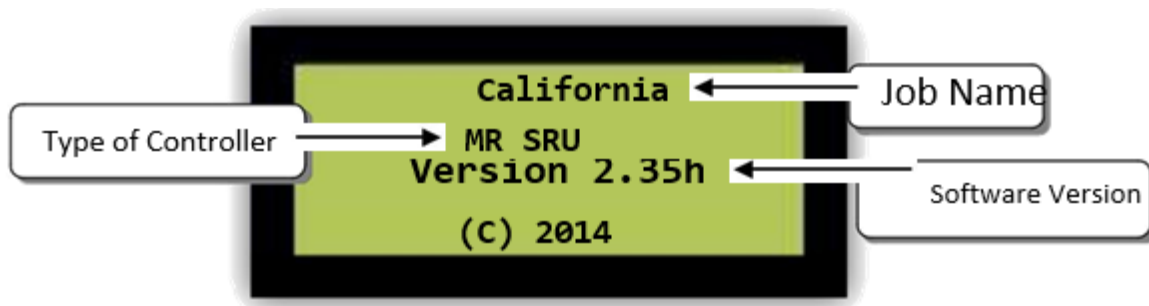

Figure 22: Successful Program
- a. If all the information is correct, the CT/COP Controller has been successfully programmed. See Figure 22.
- a. If all the information is correct, the MR Controller has been successfully programmed. See Figure 22.